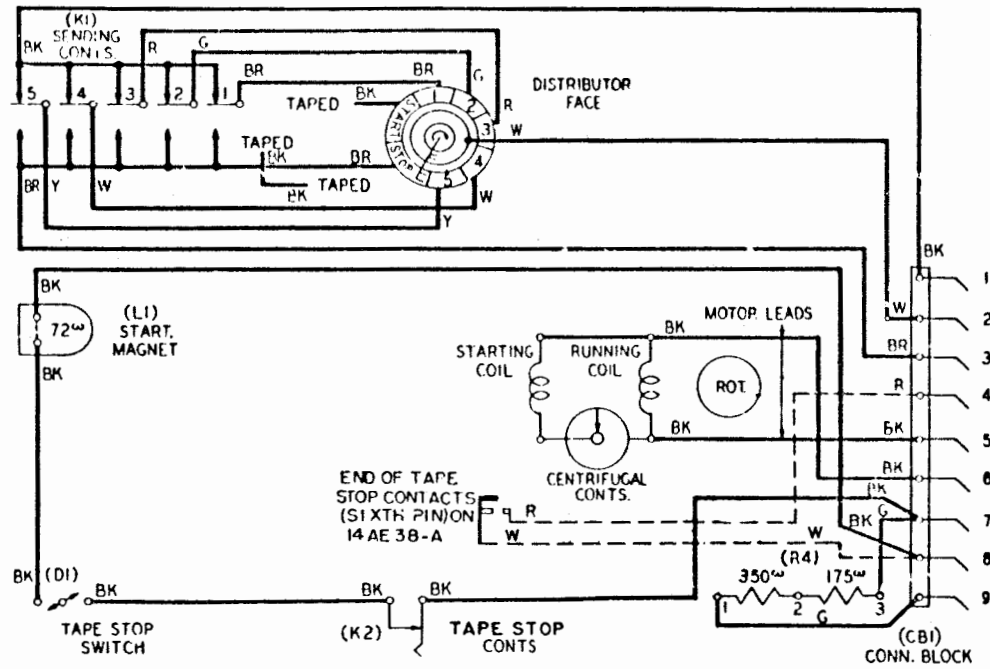
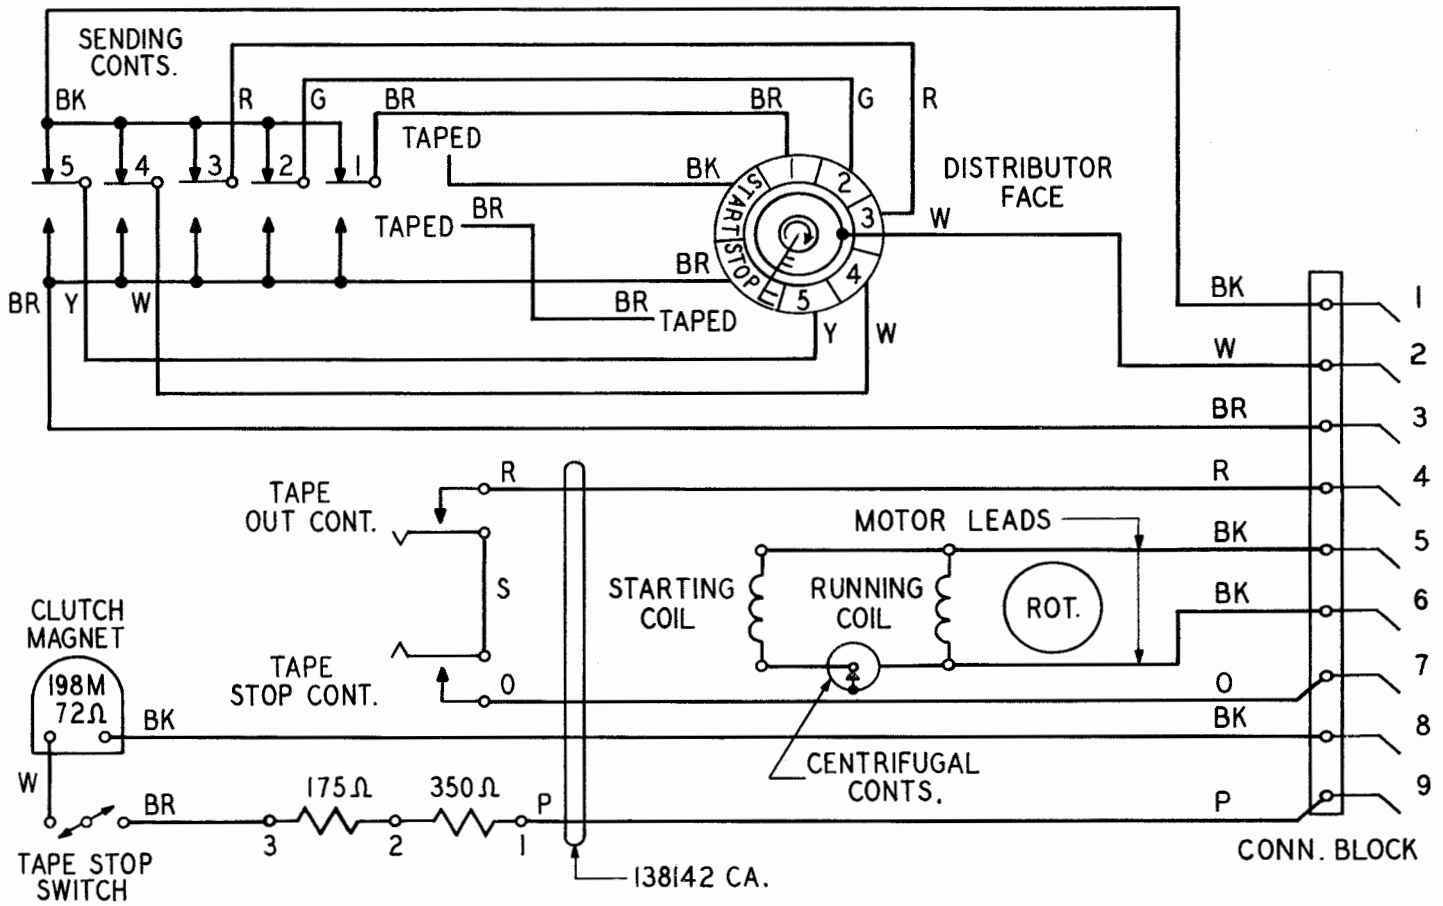

Figure 1 – 14A, 14B, 14H, 14J, 14Y, 14AE, 14AE-38A, and 14AU Transmitter-Distributors (Synchronous Motor)
Figure 12 - 14BH and 14BJ Transmitter-Distributors
1.02 This section is reissued to include Figures 12, 13, and show a change in Figure 1.
1.03 The wiring shown in Figures 1, 2, and 3 for transmitter-distributors which are used at teletypewriter stations, covers the ac clutch magnet which is adapted for use on either ac- or dc-power supply.
1.07 Figure 12 shows the transmitter-distributors used with the 83BI system. The 14BH unit is used for 60 wpm and the 14BJ for 75 wpm operation.